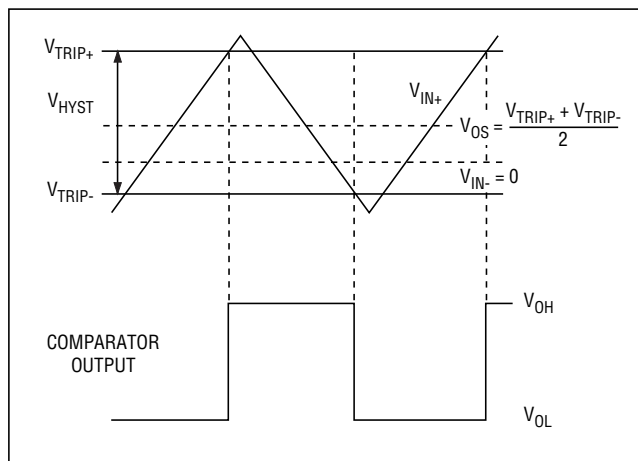

Figure 1. Input and Output Waveforms, Noninverting Input Varied
- Note 1:** Trip Point is defined as the input voltage required to make the comparator output change state. The difference between upper ( $V_{TRIP+}$ ) and lower ( $V_{TRIP-}$ ) trip points is equal to the width of the input-referred hysteresis zone ( $V_{HYST}$ ). Specified for an input common-mode voltage ( $V_{CM}$ ) of 0 (see Figure 1).
- Note 2:** Input Offset Voltage is defined as the center of the input-referred hysteresis zone. Specified for  $V_{CM} = 0$  (see Figure 1).
Adding hysteresis to a comparator creates two trip points: one for the input voltage rising and one for the input voltage falling (Figure 1). The difference between these two input-referred trip points is the hysteresis.
Figure 1 illustrates the case where IN- is fixed and IN+ is varied. If the inputs were reversed, the figure would look the same, except the output would be inverted.